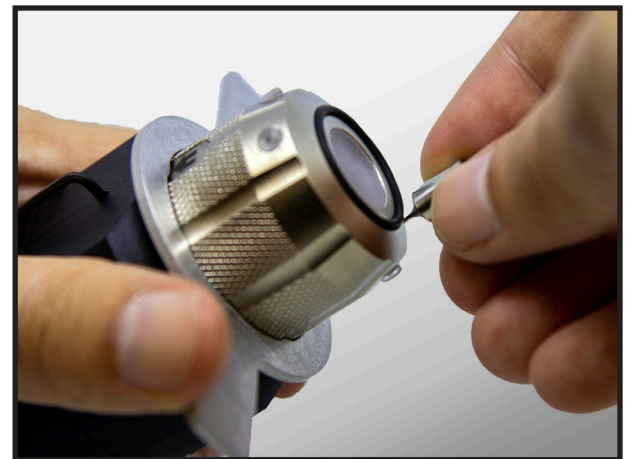

Figure 3: Unscrew the Cap
- 6) While keeping the pin fully depressed, use the spanner wrench to provide torque to slightly rotate the cap counter-clockwise approximately 10 degrees but **no more**. It is easiest to use one hand to apply pressure to both wrenches and the other hand to insert the pin. See Figure 3.